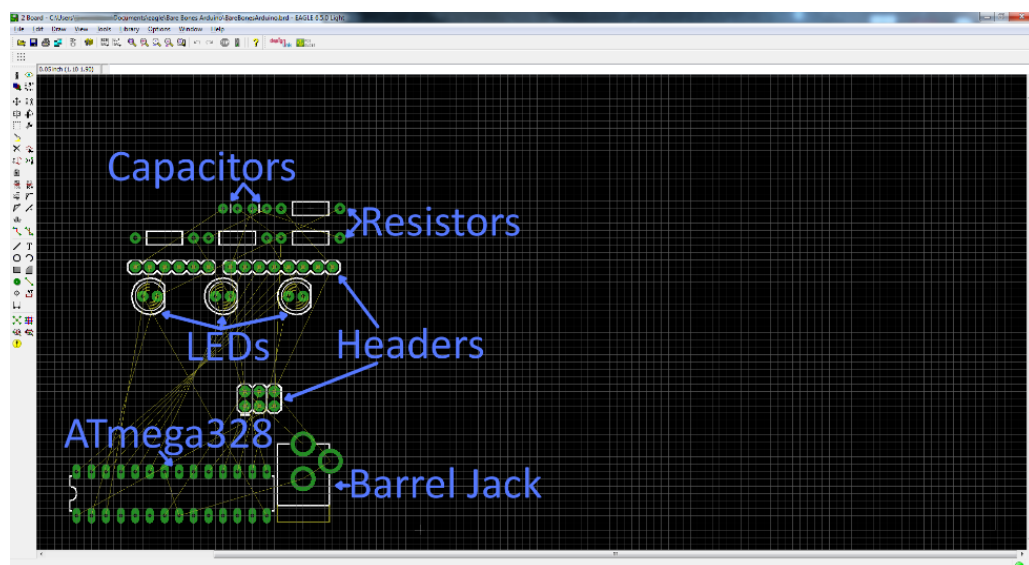
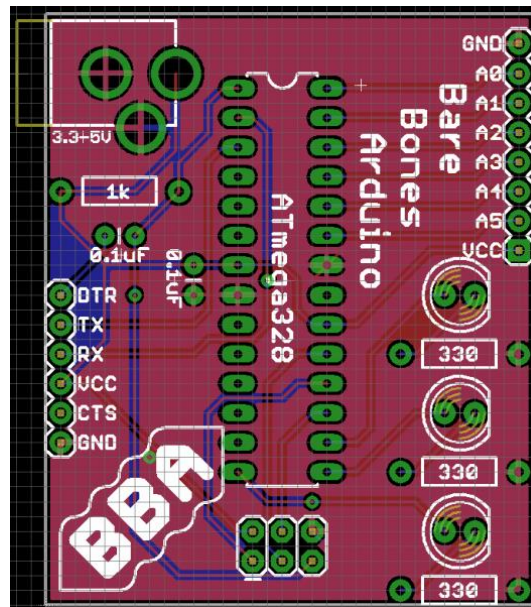

Figure 6. Eagle PCB design tool
Figure 7. Finished PCB design
Once the schematic is done, we can export it to **Eagle PCB design tool** as shown on Figure 6. There, you **define the board dimensions, place the components** (the footprint view is used) on the board **and route the connections**. Once done (check Figure 7), you may export the files needed for manufacturing (Gerber files).
12. Add the 8MHz resonator circuit as depicted in page 24 and in figure 7 page 11.